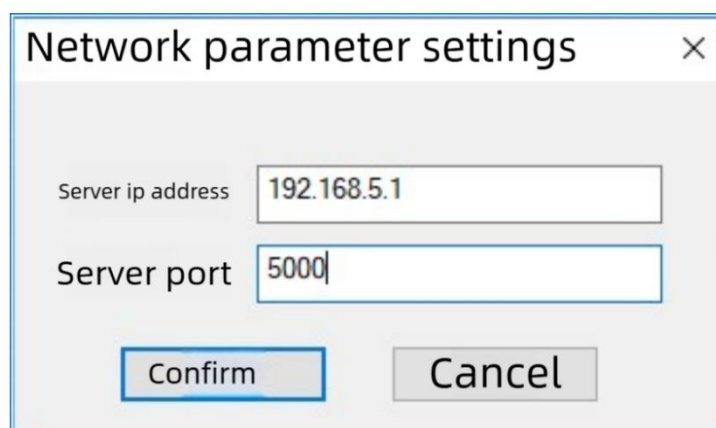

Figure 4.1f
5. Then click "Sampling"> "Network parameter Settings" one by one, and Figure 4.1f will pop up. After clicking "OK" according to the content of Figure 4.1f, the software can be closed and reopened to collect data normally.